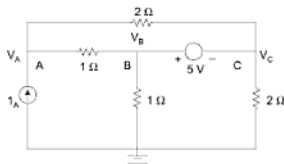

Fig. A1-55
- (a) Determine voltages V_A , V_B and V_C in the Fig. A1-55 shown below: